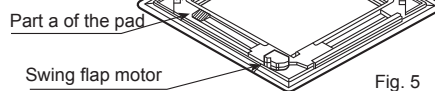
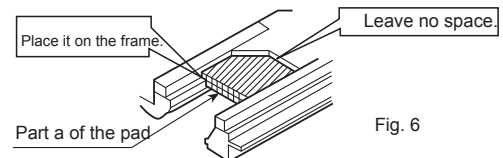

Fig. 5
Fig. 6
- ② Install part a of the pad on the place shown in Fig. 5. Refer to Fig. 6.